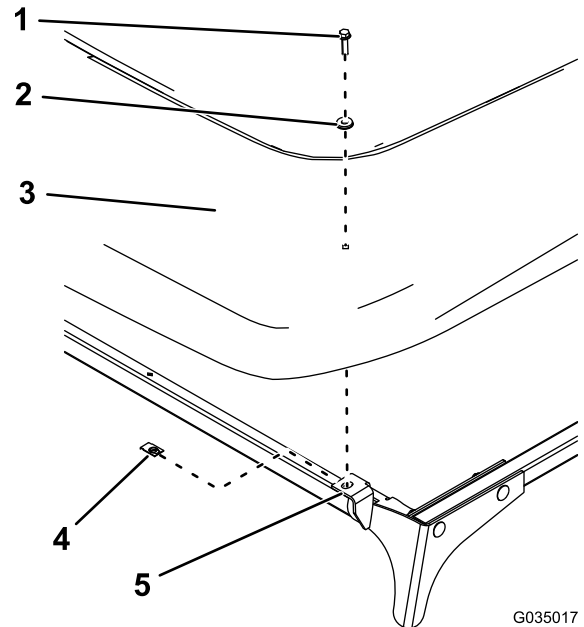

Figure 64
1. Install the sunshade to the front plates using 2 clips, 2 sealing washers, and 2 hex-flange bolts (1/4 x 1 inch) as shown in Figure 64.